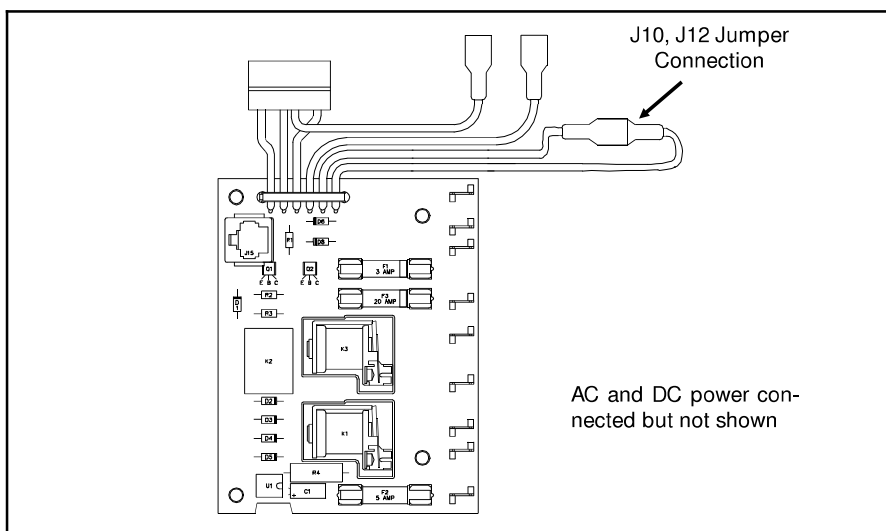

Figure 11.53 Single Door Power Supply
7. For the single door models, check that the two blue wires terminals J10 and J12 are connected together as shown by Figure 11.53.
A. If you do not have 11-12 volts as shown, connect J10 and J12 together as shown in Figure 11.53. (2 door models only)